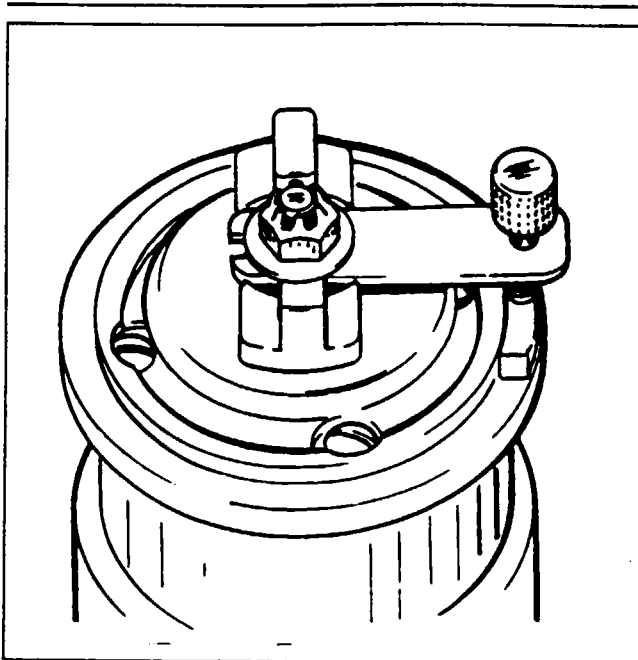

Figure 8-14. Rotor Holding Tool Installed
1. Loosen the nut securing the drive plate to the magneto shaft sufficiently in order to install the Scintilla 11-8465 Rotor Holding Tool under the nut and flat washer as shown in Figure 8-14. Tighten the nut securely.